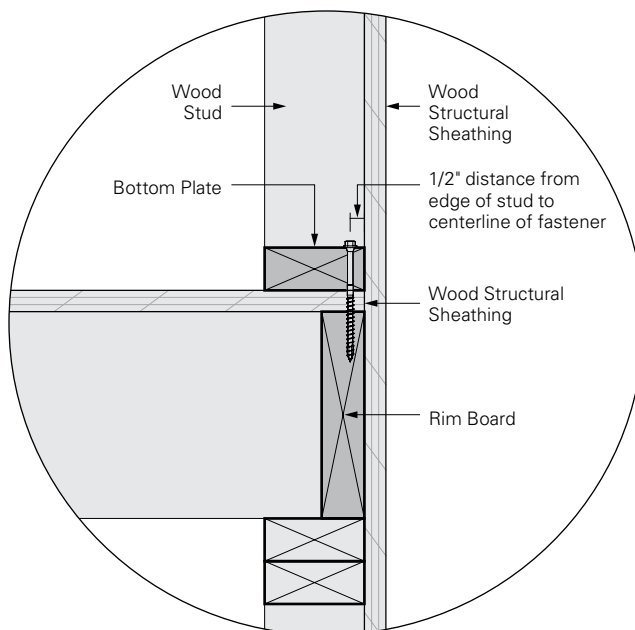

Figure 1—Single Bottom Plate to Rim Board Installation
- Drive screw downward at a 90° angle, a minimum of 1/2" from outside face of wall, through the bottom plate into the rim board (Figure 1). Drive until the washer is drawn firm and flush. Do not overdrive or countersink.